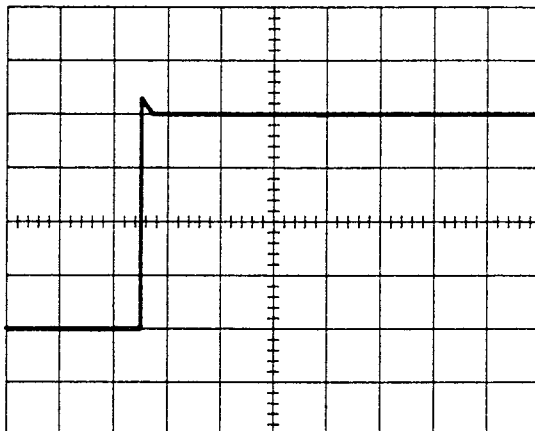

Fig. 4-1. Correct Pulse Display
A. Adjust FOCUS and INTENSITY controls for a clear, bright trace. Adjust POSITION and GAIN controls for a four division high pulse (see Fig. 4-1). *NOTE: If this specification cannot be met, check performance of gain amplifier or vertical amplifier circuits on Vertical Board.*